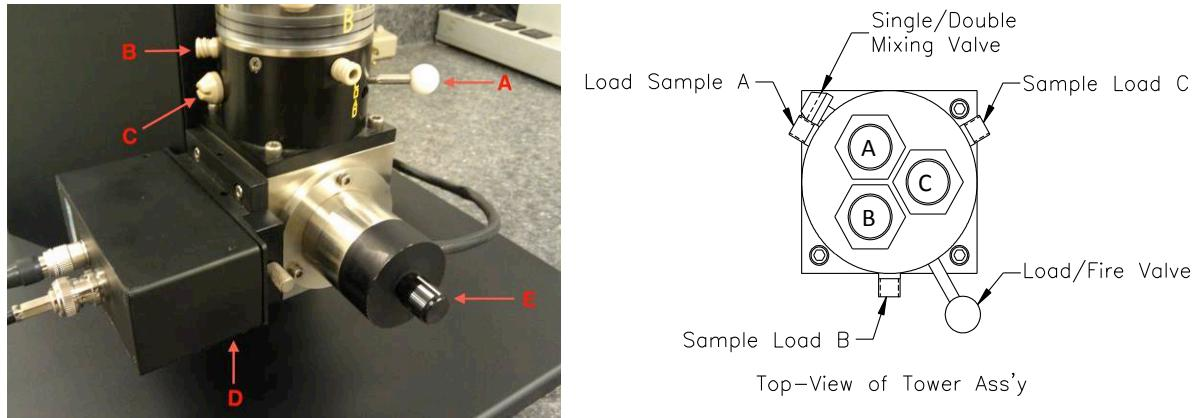

Figure-2: The Tower Assembly. A. Load/Fire Valve for syringes
2. Plug the Photodiode Cable into the back of the Motor Control Box. This connection is marked “*Diode Signal*”. The photodiode is attached to the front of the Steel Cube with three Socket Head Cap Screws (6-32 x 3/8 inch) using a 7/64” Allen Driver (*Figure-2*).
3. Connect the Photomultiplier (PMT) to the Steel Cube with four Socket Head Cap Screws (6-32 x 3/8 inch) using a 7/64” Allen Driver (*Figure-2*).
To change between single mixing and double mixing simply turn the single mixing double mixing valve shown in *Figure-2*. If the slot in this valve is in the vertical position, it opens the line in syringe “B”, and then allows the system to perform double mixing. If the valve position is in the horizontal position, then the system is in the single mixing configuration.